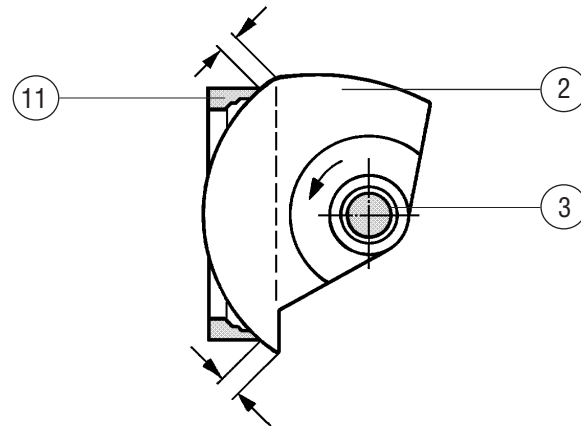

Fig. 5. Locating of the ball sector sphere when adjusting the actuator
When adjusting the actuator, make sure that the sphere of the ball sector (2) is centered against the seat ring (11) in closed position, i.e. that the sphere projects equally on both sides of the seat ring as shown in Fig. 5.